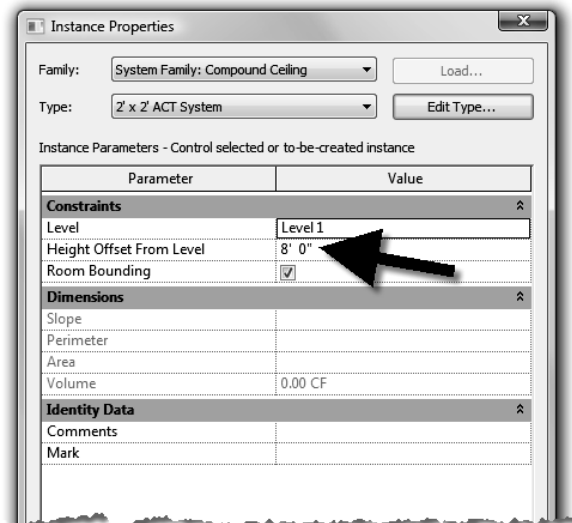

Figure 7-4.4 Ceiling: Properties
6. Set the *Height Offset From Level* setting to **8'-0"** (Figure 7-4.4).